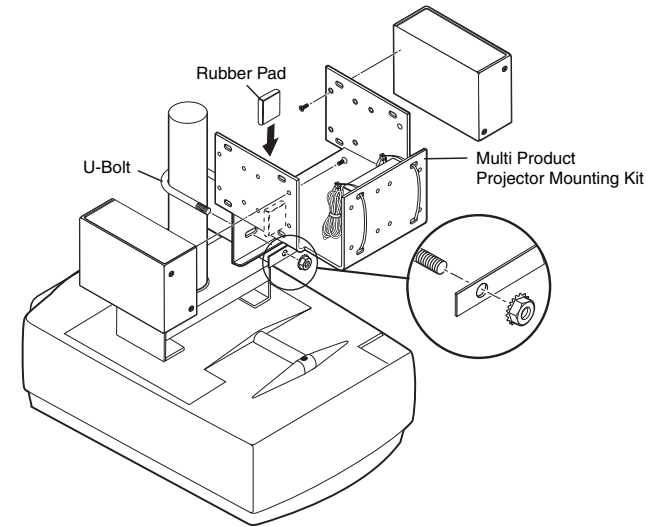

Figure 2-9 — Projector-mounting the YCS SW2 using the PMK 300 Projector Mount Kit
2. Mount the YCS to one of the bracket's three mounting plates. It can be vertically mounted facing either up or down, whichever is most convenient. See figure 2-9.